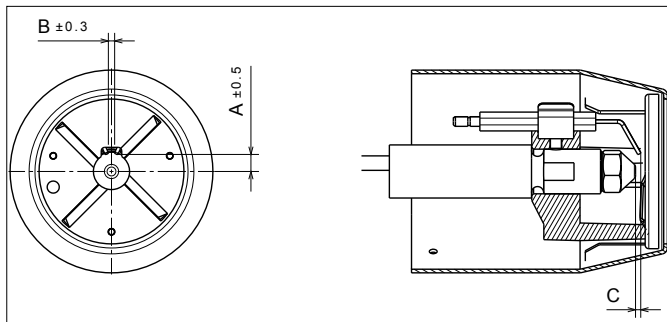

Figure 10-4: Ignition electrode settings
6. Check/adjust electrode setting. Refer to Figure 10-4.